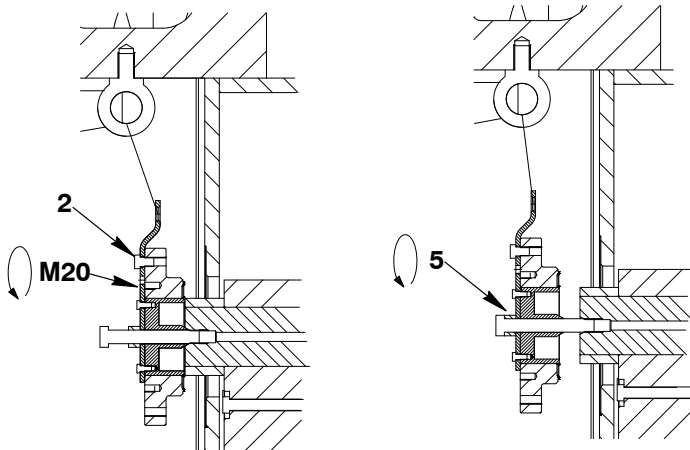

Fig. 5
- 8) Attach the lifting tool (94704) to the manual ratchet. Move the lifting tool in front of the bearing (6, Fig. 5).
- 9) Tighten the screw (4) with your hand.
- 10) Turn the nut (5) against the bearing (6) to push the lifting tool (94704) against the pin (3).
- 11) Put two M20 x 140 mm bolts into the two threads (7) in the bearing (6).
- 12) Tighten equally the two M20 x 140 mm bolts to push out the bearing (6).
Note: Do not install the two taper pins (8, Fig. 5).